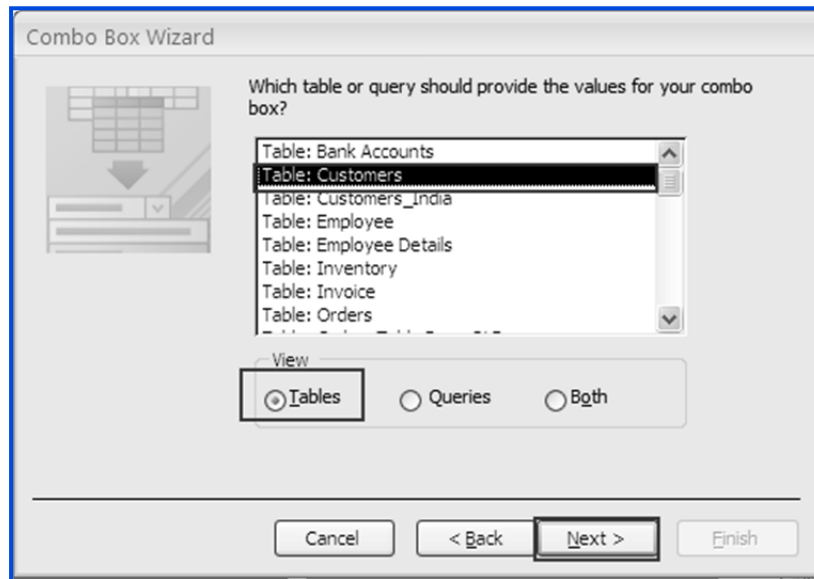

Fig. 2.2.15. Select the required table
5. In the *Select Table or Query* window, select the table option from *View tab* and choose table *Customer* from the list, as indicated in Fig. 2.2.15. Click *Next* to continue.